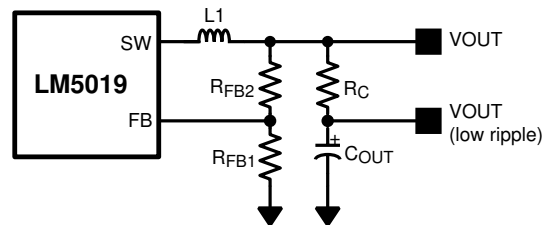

图 7-1. Low Ripple Output Configuration
This regulator regulates the output voltage based on ripple voltage at the feedback input, requiring a minimum amount of ESR for the output capacitor ( $C_{OUT}$ ). A minimum of 25 mV of ripple voltage at the feedback pin (FB) is required for the LM5019. In cases where the capacitor ESR is too small, additional series resistance can be required ( $R_C$  in 图 7-1).
For applications where lower output voltage ripple is required, the output can be taken directly from a low ESR output capacitor, as shown in 图 7-1. However,  $R_C$  slightly degrades the load regulation.